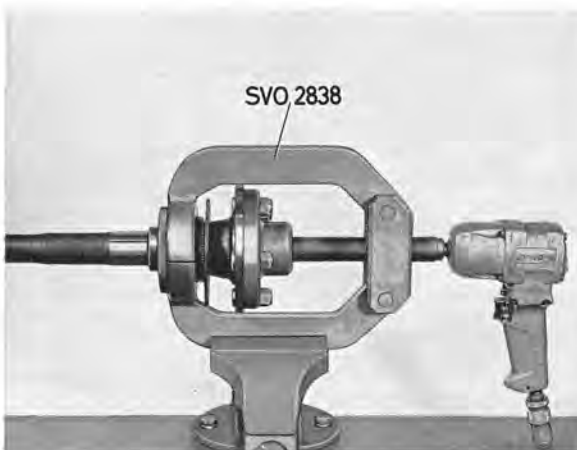

Fig. 4-138. Removing drive shaft bearing
5. Secure press tool 2838 in a vice. Secure the drive shaft to the spindle plate. Screw in the spindle so that the tool arms can be placed against the bearing, see Fig. 4-138. Screw out the spindle and press off the bearing and lock ring. Remove the oil seal.